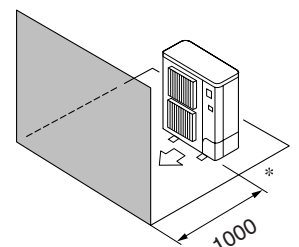

Fig. 2-5
④ Obstacles at front only (Fig. 2-5)